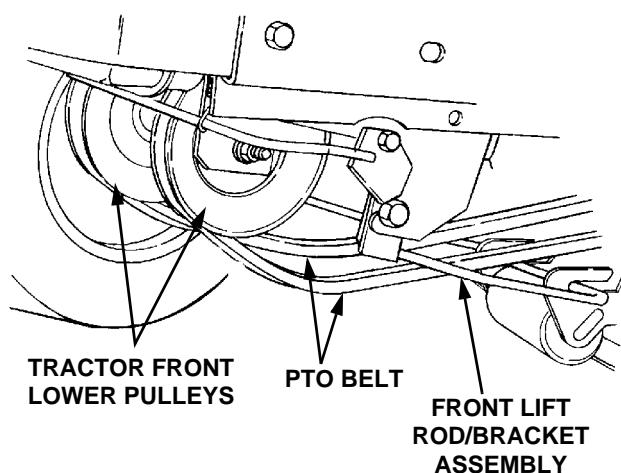

Figure 44
5. Pass the PTO belt downward, inside the tractor frame, until the belt is below the two tractor front lower pulleys and pull the belt clear of the tractor (See Figure 44).